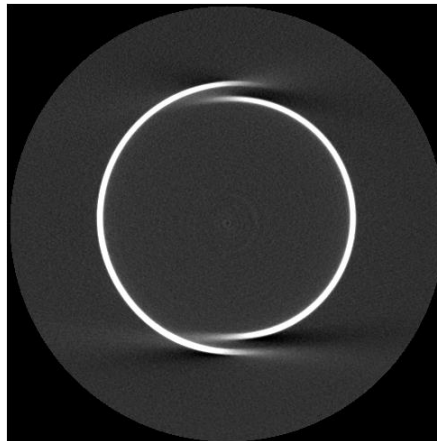

Figure 43
8. In case the reconstruction is not correct (as shown in *Figure 43*) it will be necessary to follow the procedure described in paragraph 11.2.10.